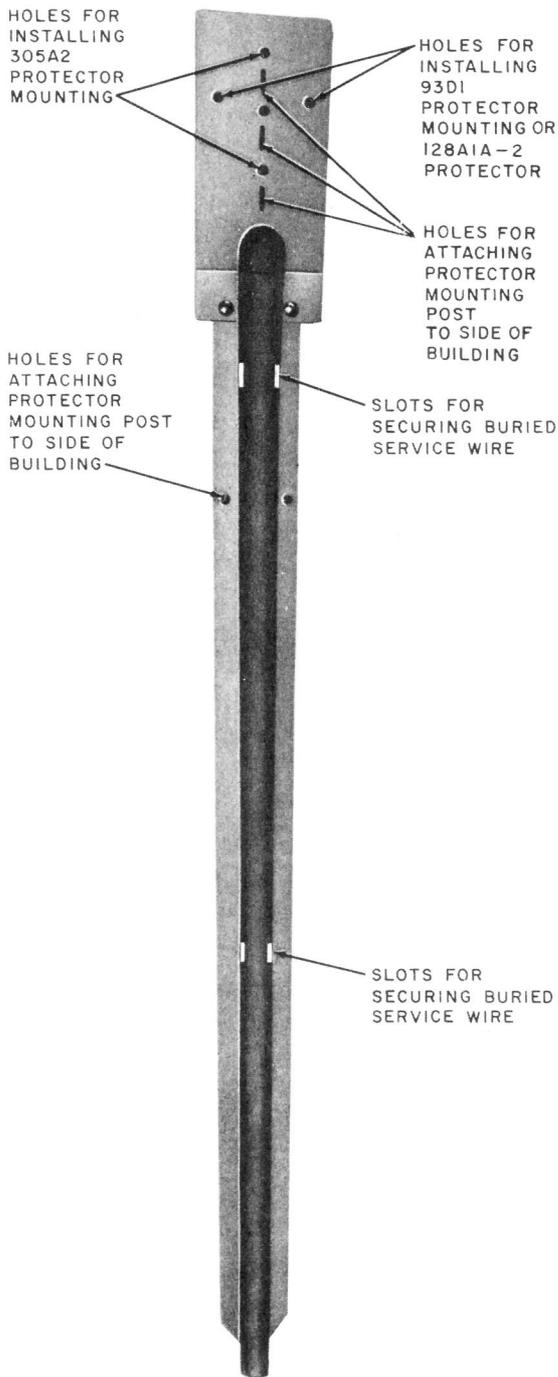

Fig. 21—Protector Mounting Post (PMP)
**3.25** The protector mounting posts, PMP-38 (Fig. 21) and PMP-50, are designed to mount a 93D1 protector mounting, a 305A2 protector mounting, a 123-type protector, or a 128A1A-2 protector where protectors are served by buried service wire. The PMP is available in 38-inch and 50-inch sizes to suit various conditions. It can be installed freestanding, at the edge of a mobile home, or can be installed on the side of a permanent building or a power service entrance conduit. When used freestanding, the PMP must be in the ground a minimum of 12 inches.